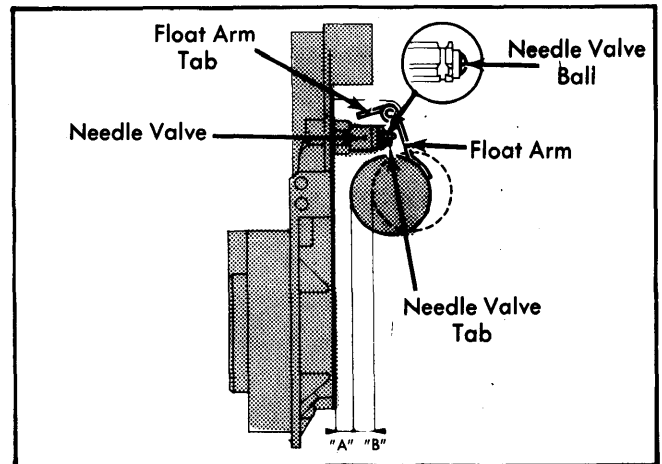

Fig. 2 Float Level and Drop (Travel) Adjustment (Federal Models)
Federal Models — 1) Remove float bowl and hold top in vertical position. See Fig. 2. Allow weight of float to close needle without allowing ball to enter valve.
2) Measure dimension "A" in Fig. 2 to check float level. If necessary, adjust by bending float arm. Measure dimension "B" for float drop or travel. If necessary, adjust by bending float tab.